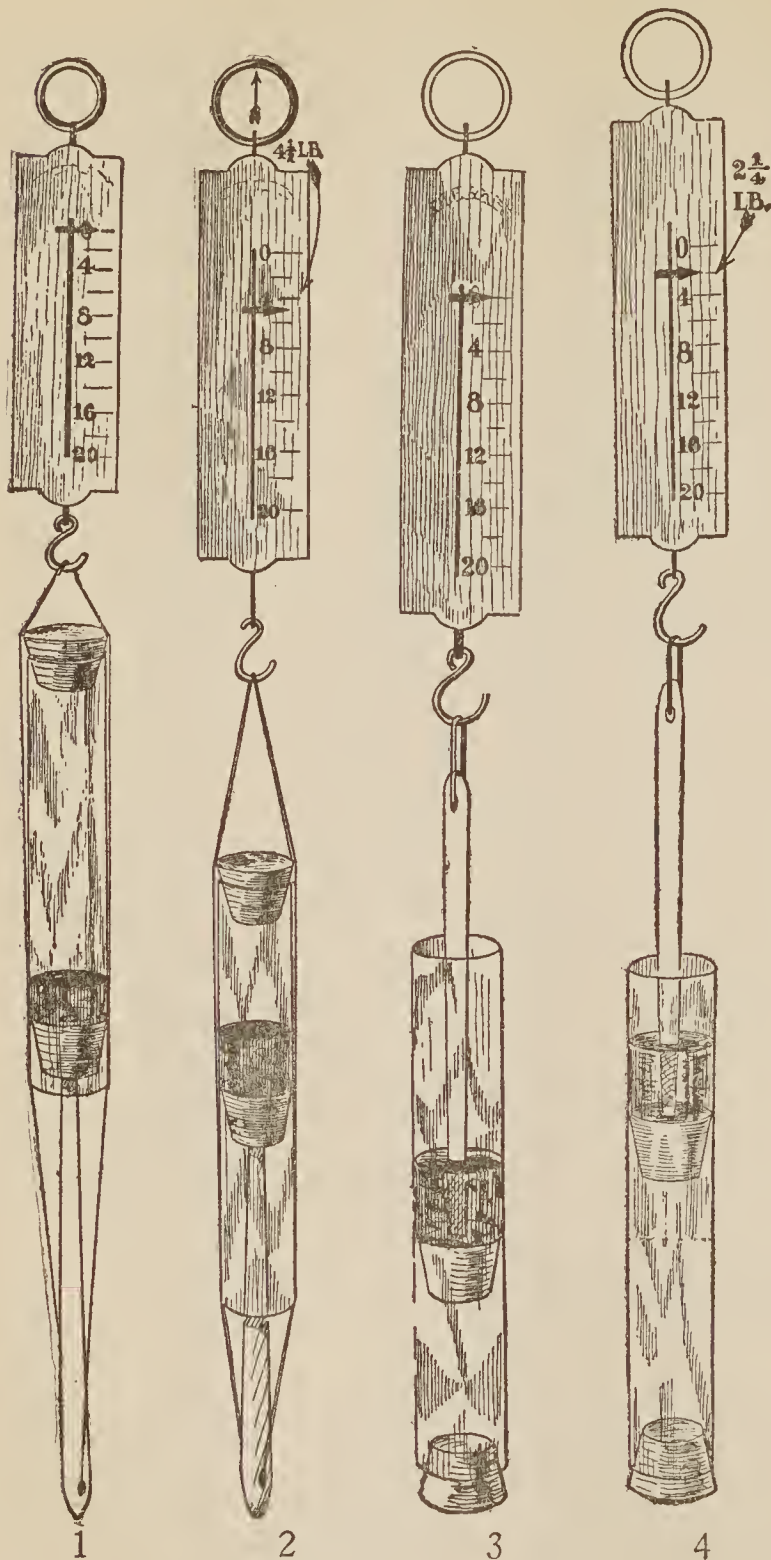

Fig. 155.—Double the Pressure on Air and you Half the Volume. Half the Pressure and you Double the Volume.
If you have a spring balance you can prove Boyle's law as follows: Use the apparatus (1) Fig. 155 and compress the air to one half its volume as in (2). Is the average pull on the balance  $4\frac{1}{2}$  lbs.?
To show that when you halve the pressure on a gas its volume doubles, use the apparatus (3) Fig. 155.